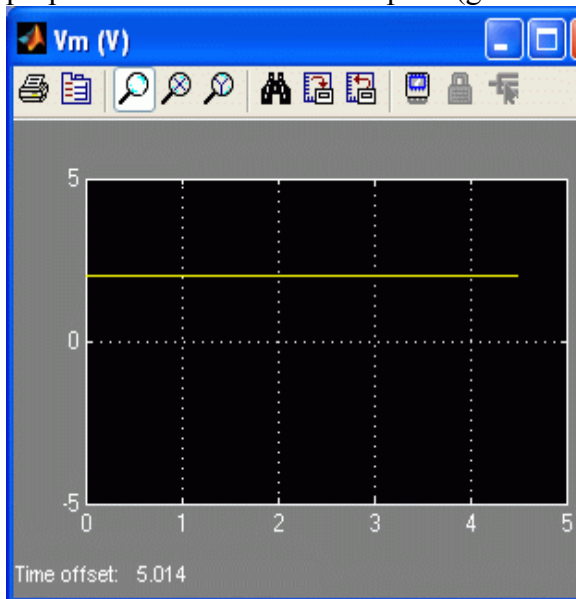

Figure 2: Constant input motor voltage.
4. Set the *Amplitude (V)* slider gain to 0.0 V.
5. Set the *Offset (V)* block to 2.0 V.
8. Select QUARC | Start to begin running the controller. The SRV02 unit should begin rotating in one constant direction. The scopes should be reading something similar to as shown in figures 2 and 3. Note that in the  $w_l$  (rad/s) scope, the yellow trace is the measured speed while the purple trace is the simulated speed (generated by the *SRV02 Model* block).